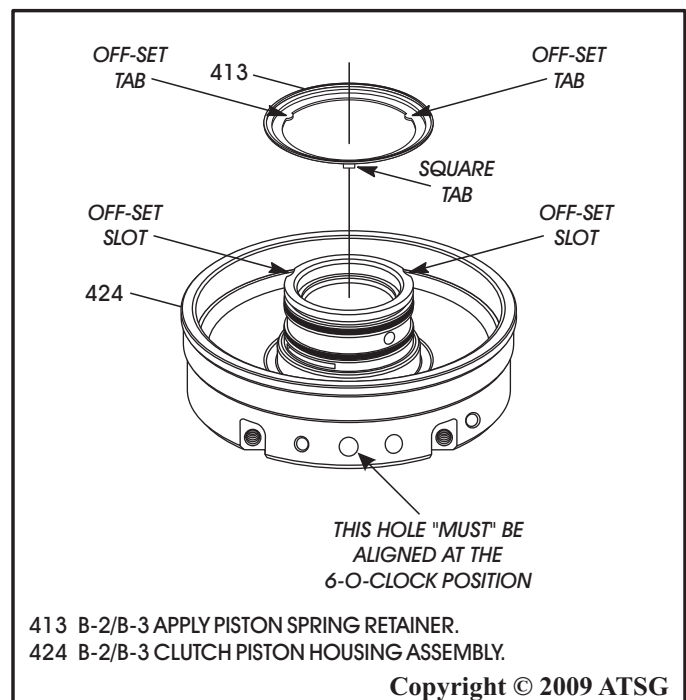

Figure 158
14. The return spring retainer (413) has two off-set tabs on the inside diameter, that align with two off-set slots in the hub of the B-2/B-3 clutch piston housing assembly (424). Refer to Figure 158.